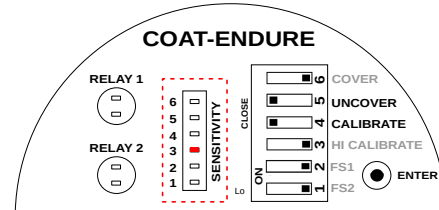

Figure 23: Sensitivity Bar Display
2. The Sensitivity Bar Display will indicate the current sensitivity value. As can be seen in the Figure 23, the value been shown here is 3.